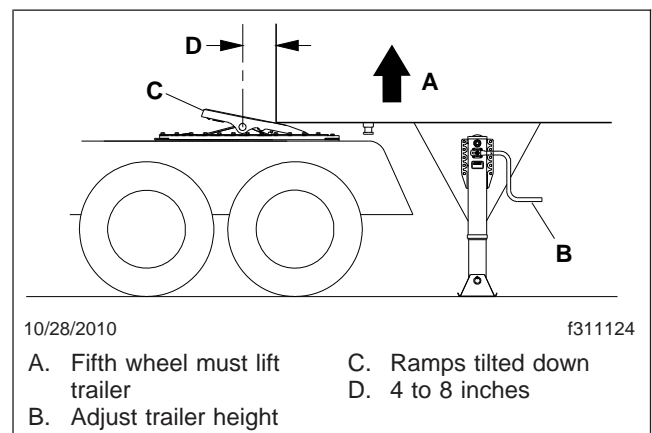

Fig. 17.4, Trailer Connection Point, Standard Fifth Wheel Plate
For a standard fifth wheel plate, the trailer should contact the fifth wheel approximately 4 to 8 inches (10 to 20 cm) behind the fifth wheel pivot. See Fig. 17.4.
- For a standard fifth wheel plate**, the trailer should contact the fifth wheel approximately 4 to 8 inches (10 to 20 cm) behind the pivot. See Fig. 17.4.